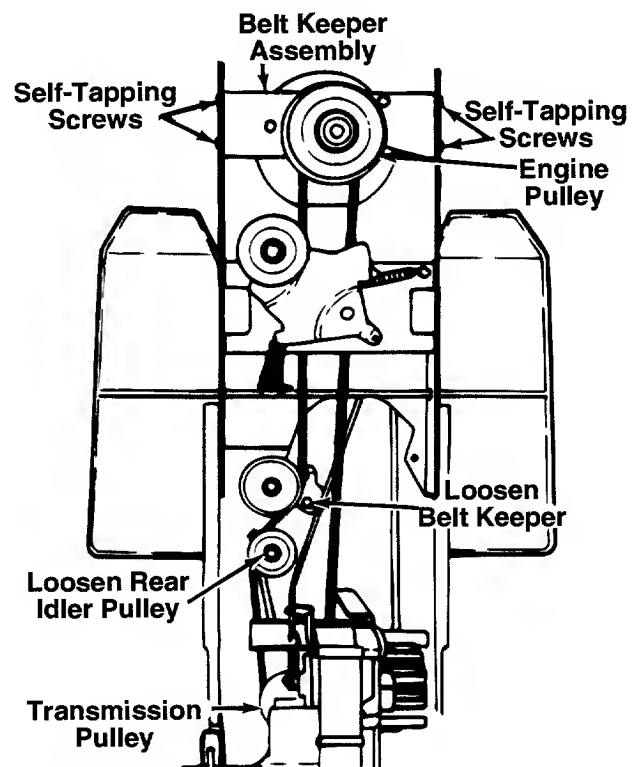

FIGURE 28.
DRIVE BELT (See figure 28)
4. Remove the four self-tapping screws which hold the belt keeper assembly to the frame at the engine pulley. Push the belt keeper assembly forward, out of the way. See figure 28.